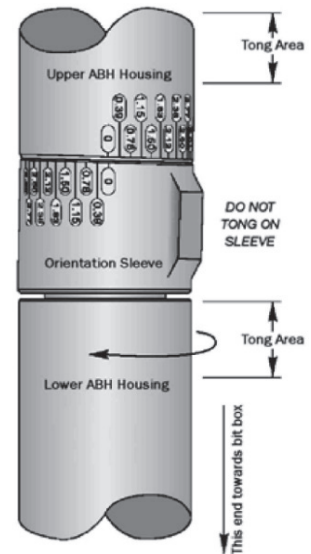

Figure 9
1. Tong in the areas as shown in Figure 9
10. Tong in the areas shown in Figure 9 and apply the appropriate torque to the connection. See the table on next page for recommended ABH torque values.